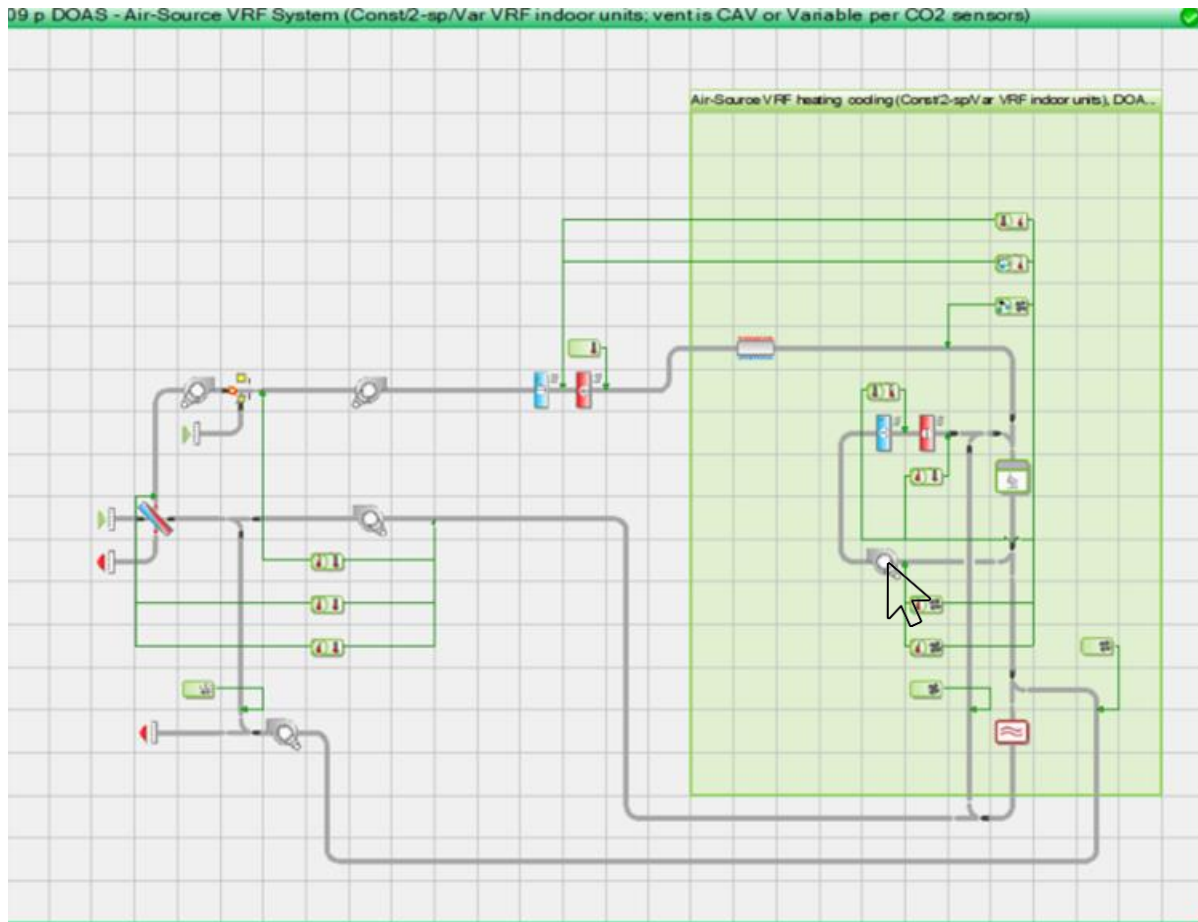

Figure 19: VRF System - Fan
1. Double click the fan icon in the module as shown in Figure 19. The "fan" window appears as shown in Figure 20.